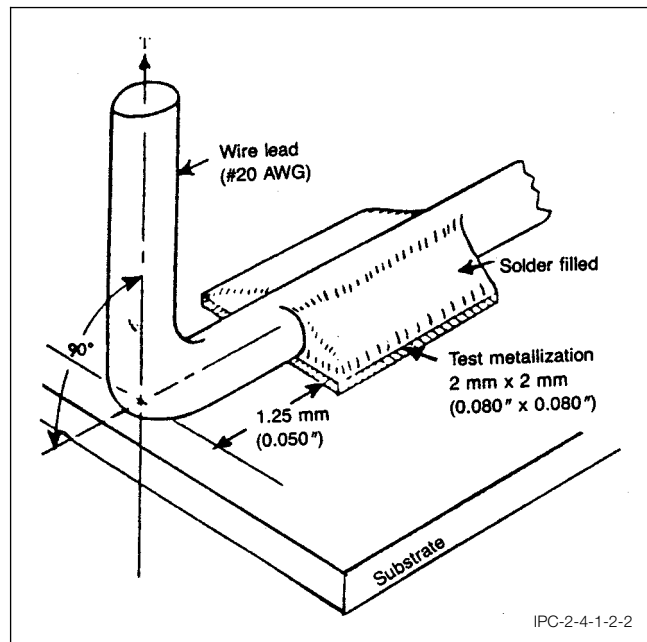

Figure 2
5.1.3 Bending the Wire Leads Carefully place a straight-edge rule across the lead wire in line with the first row of wire bend marks in the test pattern. Bend one wire to a position perpendicular with the surface of the substrate 1.25 mm [0.050 in] from the edge of the conductor land (Figure 2).